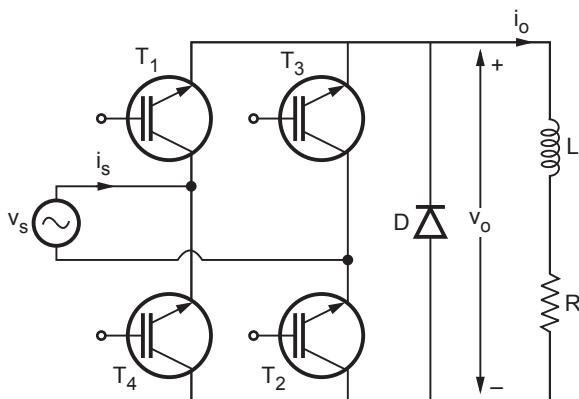
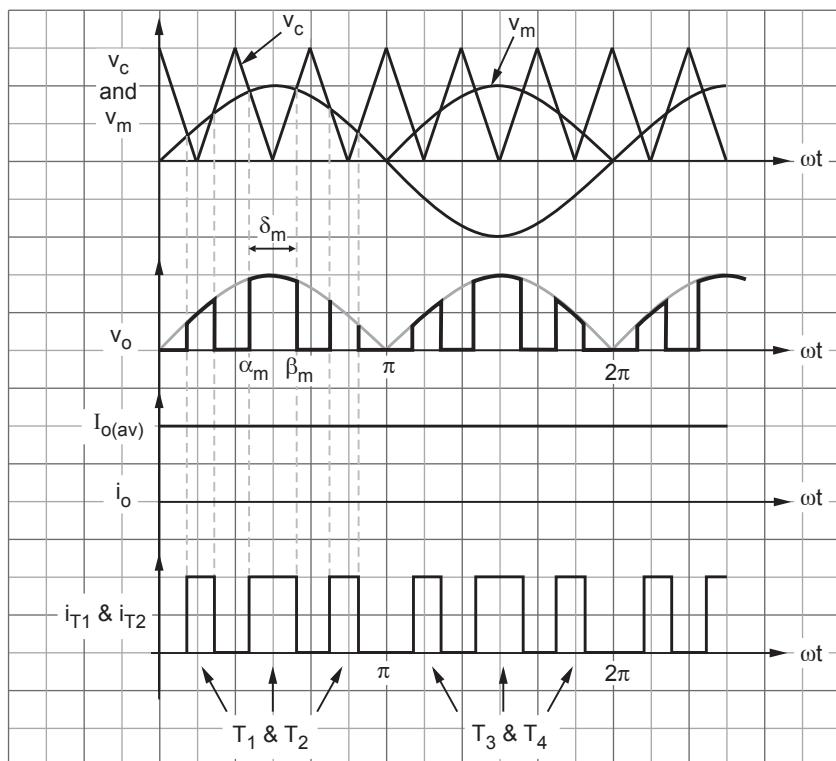

Fig. 2.9.1 1 ϕ IGBT based controlled rectifier
Fig. 2.9.2 Waveforms of IGBT based rectifier
Circuit diagram : Fig. 2.9.1 shows the circuit diagram of 1φ controlled rectifier using IGBT. There are four IGBTs and one freewheeling diode.
- Let us discuss the operation of rectifier of Fig. 2.9.1 for sinusoidal pulse width modulated output. Fig. 2.9.2 shows the waveforms.